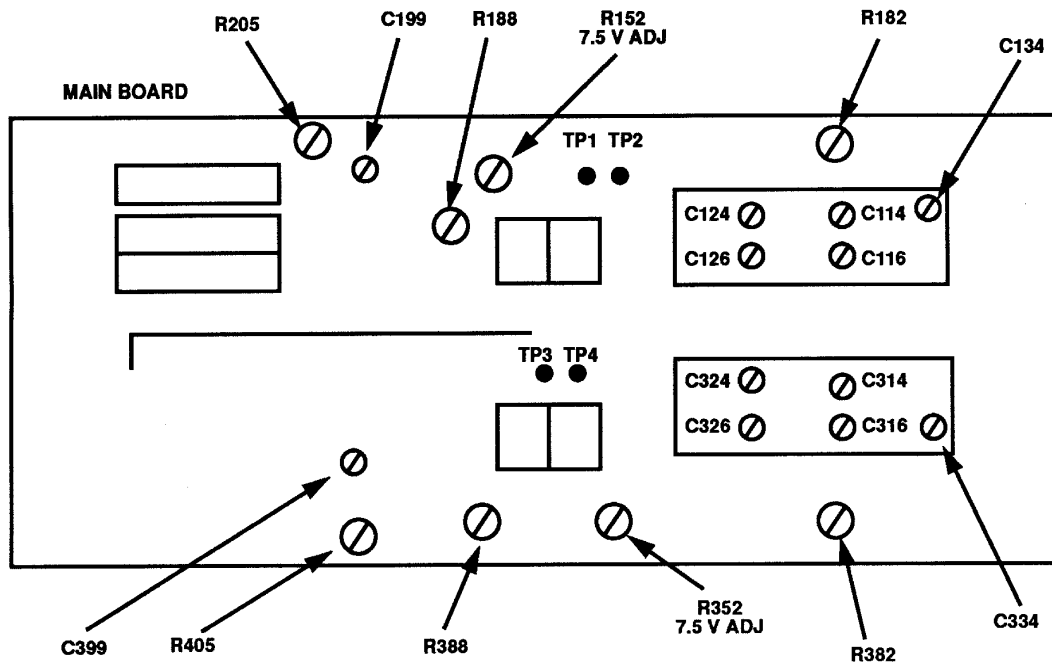

Figure 4. Test instrument - left-side view.
- (4) Set oscilloscope calibrator **EDGE** output for 100 mV, 1 kHz and adjust **EDIT FIELD** knob for 5 divisions of vertical deflection on oscilloscope.
- (5) If square wave level, roll off, or overshoot exceeds $\pm 4\%$, adjust C134 (fig. 4) for flat top on waveform.
- (6) Set TI **CH 1 VOLTS/DIV** switch to **50 m**.
- (7) Set oscilloscope calibrator **EDGE** output for 250 mV, 1 kHz and adjust **EDIT FIELD** knob for 5 divisions of vertical deflection on oscilloscope.
- (8) If square wave level, roll off, or overshoot exceeds $\pm 4\%$, adjust C124 (fig. 4) for flat top and C126 (fig. 4) for square corner on waveform.
- (9) Set TI **CH 1 VOLTS/DIV** switch to **.5**.
- (10) Set oscilloscope calibrator **EDGE** output for 2.5 V, 1 kHz and adjust **EDIT FIELD** knob for 5 divisions of vertical deflection on oscilloscope.
- (11) If square wave level, roll off, or overshoot exceeds $\pm 4\%$, adjust C114 (fig. 4) for flat top and C116 (fig. 4) for square corner on waveform.
- (12) Release **CH 2 GND** pushbutton to out position. Remove 24 pF normalizer from equipment setup and connect oscilloscope calibrator **SOURCH/MEASURE CHAN 1** to TI **CH 1**.
- (13) Set TI **CH 1 VOLTS/DIV** switch to **2 m** and oscilloscope calibrator **VOLTAGE** output for 10 mV, 1 kHz. If necessary, adjust oscilloscope calibrator **EDIT FIELD** knob for a 0.0% **err** display indication.
- (14) Adjust R205 (fig. 4) for 5 divisions of vertical deflection on oscilloscope (R).
- (15) Set TI **CH 1 VOLTS/DIV** switch to **10 m** and oscilloscope calibrator **VOLTAGE** output for 50 mV, 1 kHz.
- (16) Adjust R188 (fig. 4) for 5 divisions of vertical deflection on oscilloscope (R).
- (17) Connect oscilloscope calibrator **SOURCH/MEASURE CHAN 1** to TI **CH 2** using 24 pF normalizer.
- (18) Set TI **CH 2 VOLTS/DIV** switch to **20 m** and press **CH 1 GND** pushbutton to in position.
- (19) Set delaying time base **MAIN SEC/DIV** switch to **1 m**.
- (20) Set oscilloscope calibrator **EDGE** output for 100 mV, 1 kHz and adjust **EDIT FIELD** knob for 5 divisions of vertical deflection on oscilloscope.
- (21) If square wave level, roll off, or overshoot exceeds $\pm 4\%$, adjust C334 (fig. 4) for flat top on waveform.
- (22) Set TI CH 2 VOLTS/DIV switch to 50 m.
- (23) Set oscilloscope calibrator **EDGE** output for 250 mV, 1 kHz and adjust **EDIT FIELD** knob for 5 divisions of vertical deflection on oscilloscope.
- (24) If square wave level, roll off, or overshoot exceeds $\pm 4\%$, adjust C324 (fig. 4) for flat top and C326 (fig. 4) for square corner on waveform.
- (25) Set TI CH 2 VOLTS/DIV switch to .5.
- (26) Set oscilloscope calibrator **EDGE** output for 2.5 V, 1 kHz and adjust **EDIT FIELD** knob for 5 divisions of vertical deflection on oscilloscope.
- (27) If square wave level, roll off, or overshoot exceeds $\pm 4\%$, adjust C314 (fig. 4) for flat top and C316 (fig. 4) for square corner on waveform.
- (28) Release **CH 1 GND** pushbutton to out position. Remove 24 pF normalizer from equipment setup and connect oscilloscope calibrator **SOURCH/MEASURE CHAN 1** to TI CH 2.
- (29) Set TI CH 2 VOLTS/DIV switch to 2 m and oscilloscope calibrator **VOLTAGE** output for 10 mV, 1 kHz. If necessary, adjust oscilloscope calibrator **EDIT FIELD** knob for a 0.0% **err** display indication.
- (30) Adjust R405 (fig. 4) for 5 divisions of vertical deflection on oscilloscope (R).
- (31) Set TI CH 2 VOLTS/DIV switch to 10 m and oscilloscope calibrator **VOLTAGE** output for 50 mV, 1 kHz.
- (32) Adjust R388 (fig. 4) for 5 divisions of vertical deflection on oscilloscope (R).
- (1) Position controls as listed in (a) through (c) below: